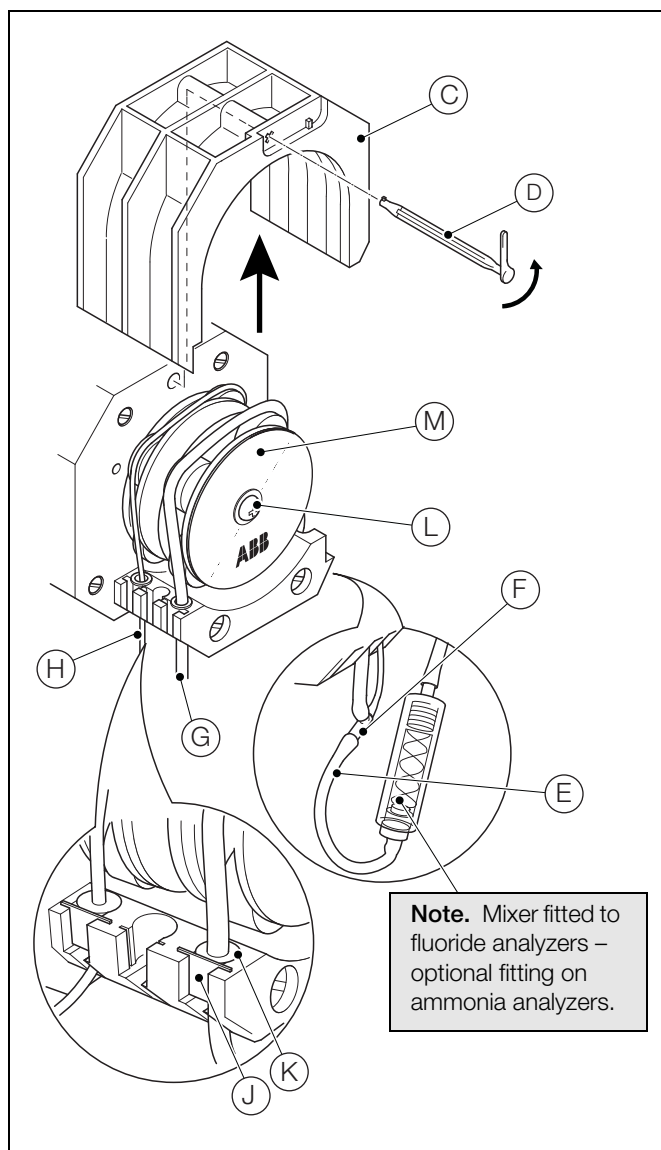

Fig. 13.2 Replacing the Pump Tubing and Capstans
3. Referring to Fig. 13.2:
- a. Press down on pump pressure plate (C), turn pressure plate locking pin (D) 1/4 turn counter-clockwise and withdraw the pin. Lift the pump pressure plate clear of the pump.
- b. Disconnect the heated block assembly inlet tube (Ammonia analyzer only) or mixer assembly inlet tube (Fluoride analyzers only) (E) from tee-piece (F) and pull tee-piece, reagent and sample tubes free of slots in lower support plate.
- c. Disconnect sample pump tube (G) from the valve manifold connector.
- d. Disconnect reagent pump tube (H) from the in-line mini barbed nipple connector located below the lower valve manifold.
- e. Remove shims (J) and sleeves (K), complete with pump tubing and tee-piece from the lower support plate and discard the complete assembly.
- f. Remove pump capstan securing screw and washers (L).
- g. Remove nameplate (M), front pump capstan, center spacer and rear pump capstan. Discard the 2 x pump capstans.
- h. Fit new rear pump capstan to pump drive shaft, followed by the center spacer and the new front pump capstan, ensuring pump rollers are aligned. Fit nameplate (M) and secure with screw and washers (L).
- i. Fit new sleeves (K) to new reagent (H) and sample (G) pump tubing (hold the hole in the sleeves open with a pair of long-nosed pliers while pushing the tubes through).
- j. Insert sleeves (K) and pump tubing into the lower support plate, ensuring the thin (reagent) tubing (H) is fitted to the rear location and the thick (sample) tubing (G) to the front. Route end of reagent tubing (H) through holes in valve manifolds.
3. Remove in-line mini barbed nipple connector (C), complete with reagent inlet tubing (D) and discard.
Connect one end of new in-line mini barbed nipple connector part no. 0214060 to reagent tubing – see (H) in Fig. 13.2.